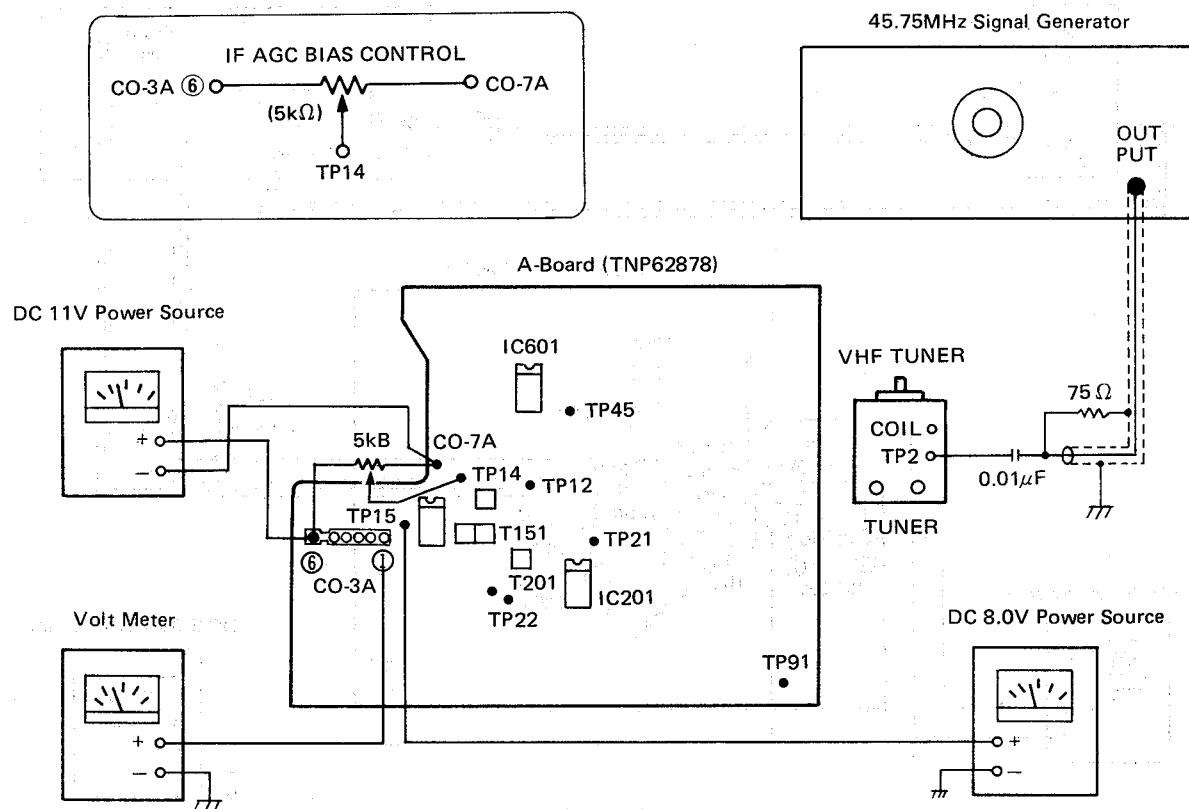

Figure 14
1. Set up 45.75 MHz signal generator, power supply and voltmeter as shown in figure 14.
3. Set up IF-AGC Bias control ($5k\Omega$) as shown in figure 14, and adjust it to approximately 6.5V.